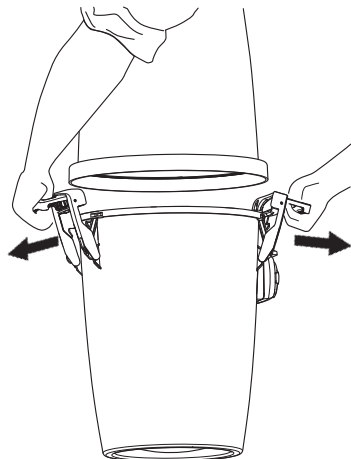

Fig. 20
1. Release the two handles clamping the dust container. The handles are easily unlocked by lifting up the handles until they come to a stop. When you pull the handles outwards away from the cleaner, the container is released. Fig. 20.
1. Release the two handles clamped on to the dust container. The handles are easily unlocked by lifting up the handles until they come to a stop. When you pull the handles outwards away from the cleaner, the container is released. Fig. 20.